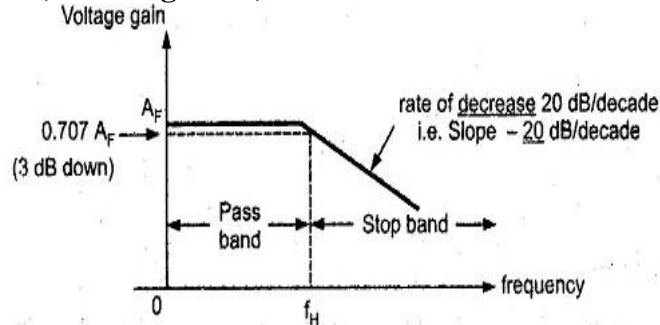

Fig. No. 1
c) Suggest and draw op-amp based circuit using Butterworth filter to fulfill following frequency response (Refer Fig. No.1).